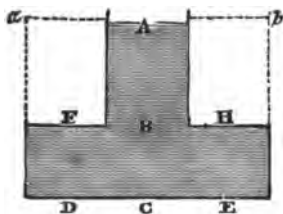

FIG. 55.—UPWARD PRESSURE OF LIQUIDS.
an upward pressure upon the top of a vessel. Thus, in a vessel shaped as in Fig. 55, the pressure upward at H or F is just the same as the pressure downward at B.
22. In Fig. 55, if AB is 18 inches, what is the upward pressure per square inch at F? *Ans.* $\frac{1}{4}$ pound.